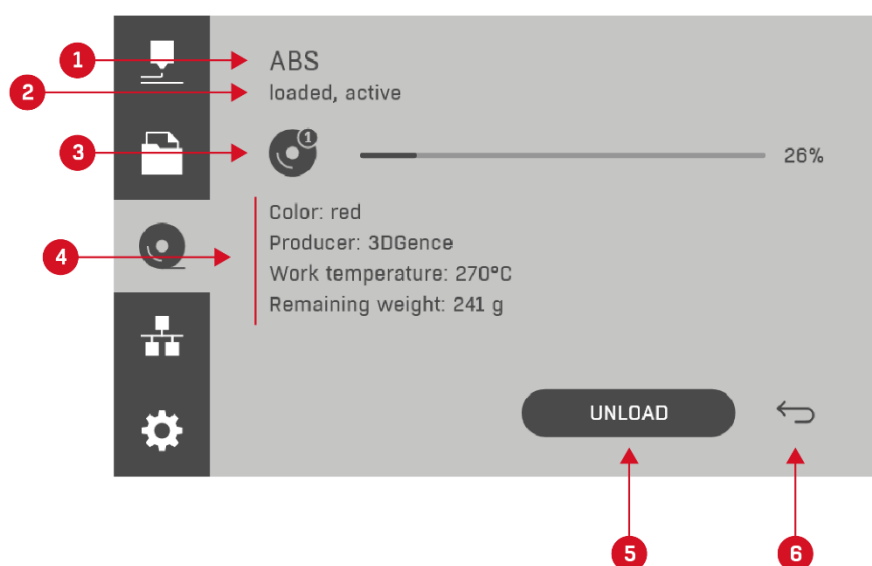

Fig. 37 Model material bay screen (model material bay 1)
5. Model material bay icon (model material bay 1). When SMM tagged material is loaded in the printer, its name and the percentage of material remaining on the spool are displayed on this screen. Use this icon to go the model material bay screen (Fig. 37).
Fig. 37 below shows the for the model material bay (model material bay 1) in which SMM tagged material is loaded.